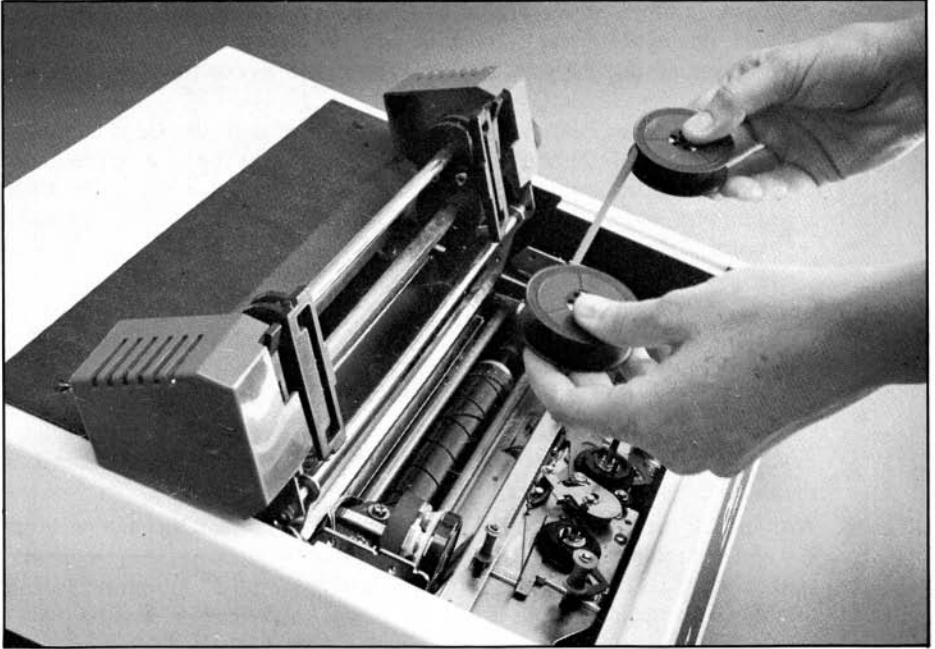

Figure 1-32. Installing the Ribbon
2. Hold the ribbon so that the empty reel with stop eyelet is in your right hand and the full reel is in your left (Figure 1-32).